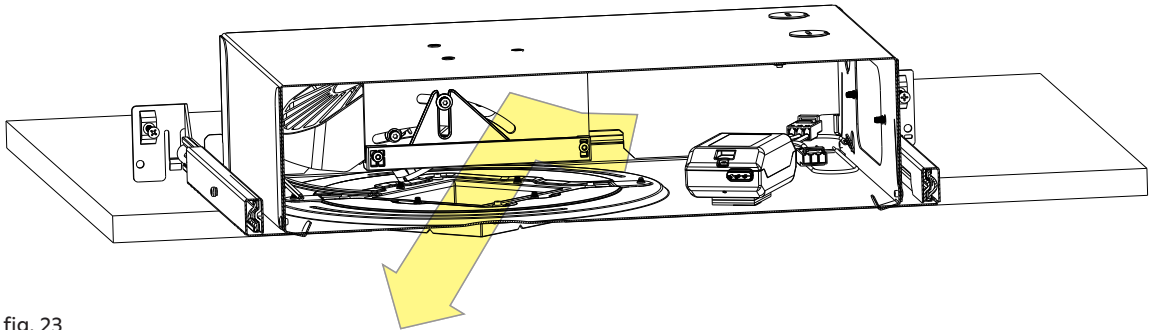

fig. 23
- d. Pull the cable to release the power supply from the fixture through the aperture (see fig. 23).